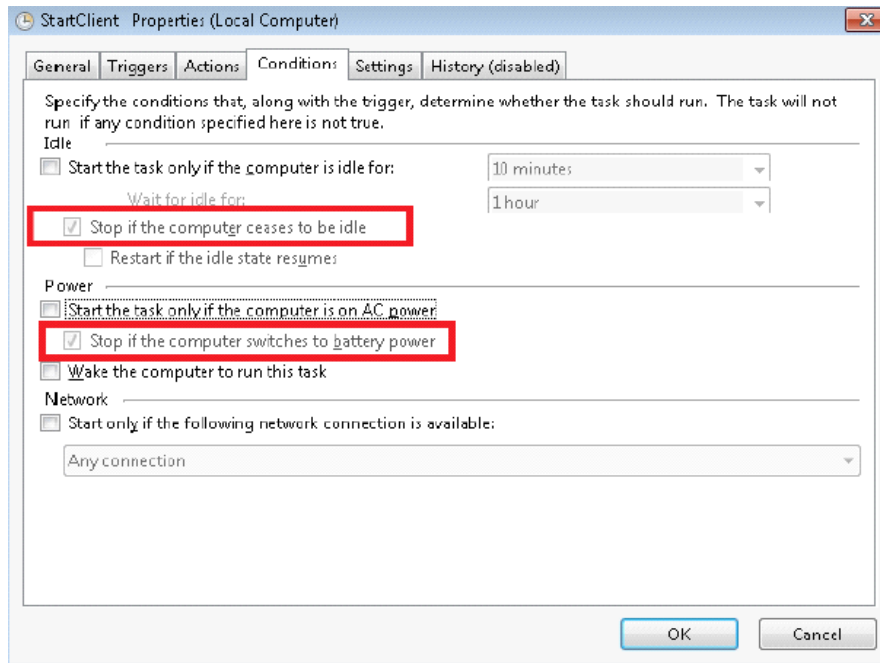

Fig. C.47: Conditions tab
STEP 14 – Please select *Conditions* tab, in *Idle* section verify that *Start the task only if the computer is idle for* option is not checked and that *Stop if the computer ceases to be idle* is checked but the check box is not enabled. In *Power* settings deselect *Start the task only if computer is on AC power* and verify that *Stop if the computer switches to battery power* is checked but the check box is not enabled (Fig. C.47).